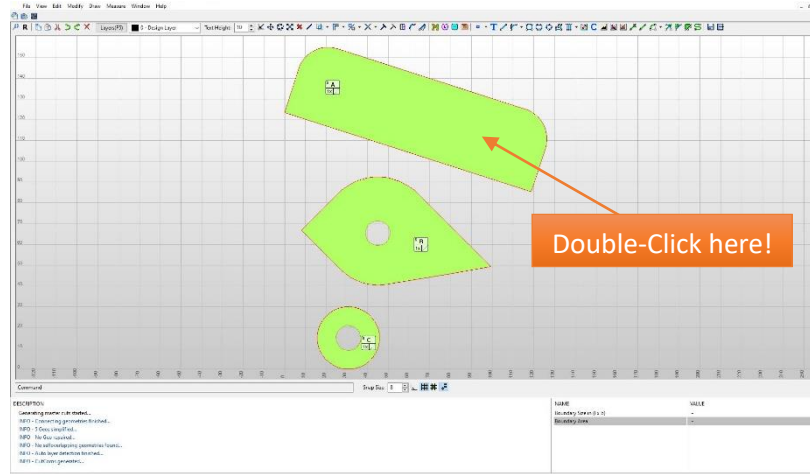

Figure 175
11. Therefor double-click on the first mastercut above to open its MasterCut Dialog (Figure 175).